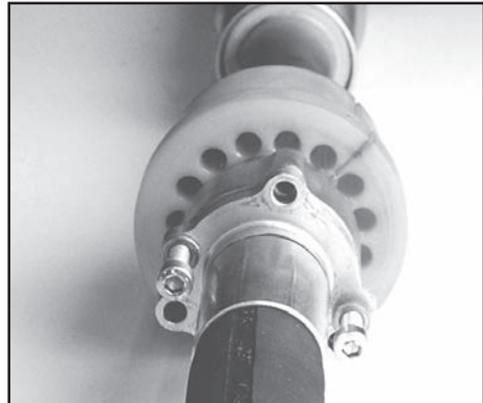

**FIG. 56: CONTROL STUD COMPONENTS**
3. Clamp the control stud into soft jaws of the vice with the whip hose pointing upwards, ready to be removed (see Fig. 56 and refer to appendix 2 for descriptions of parts).
16. Take stop ring (number 16), and sealing ring (number 17) with the control tube off the control tube (see Fig. 56).